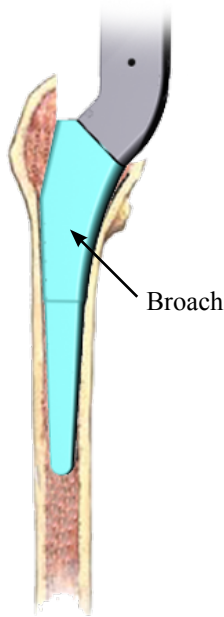

Fig. 6
Progressive broaching is followed until the preoperative sized **broach** is seated, or an appropriate sized **broach** is seated and has filled the proximal femur in the mediolateral (ML) plane. The ML axis of the broaches should be oriented with the ML axis of the femoral neck and provide correct anteversion (Figure 6).